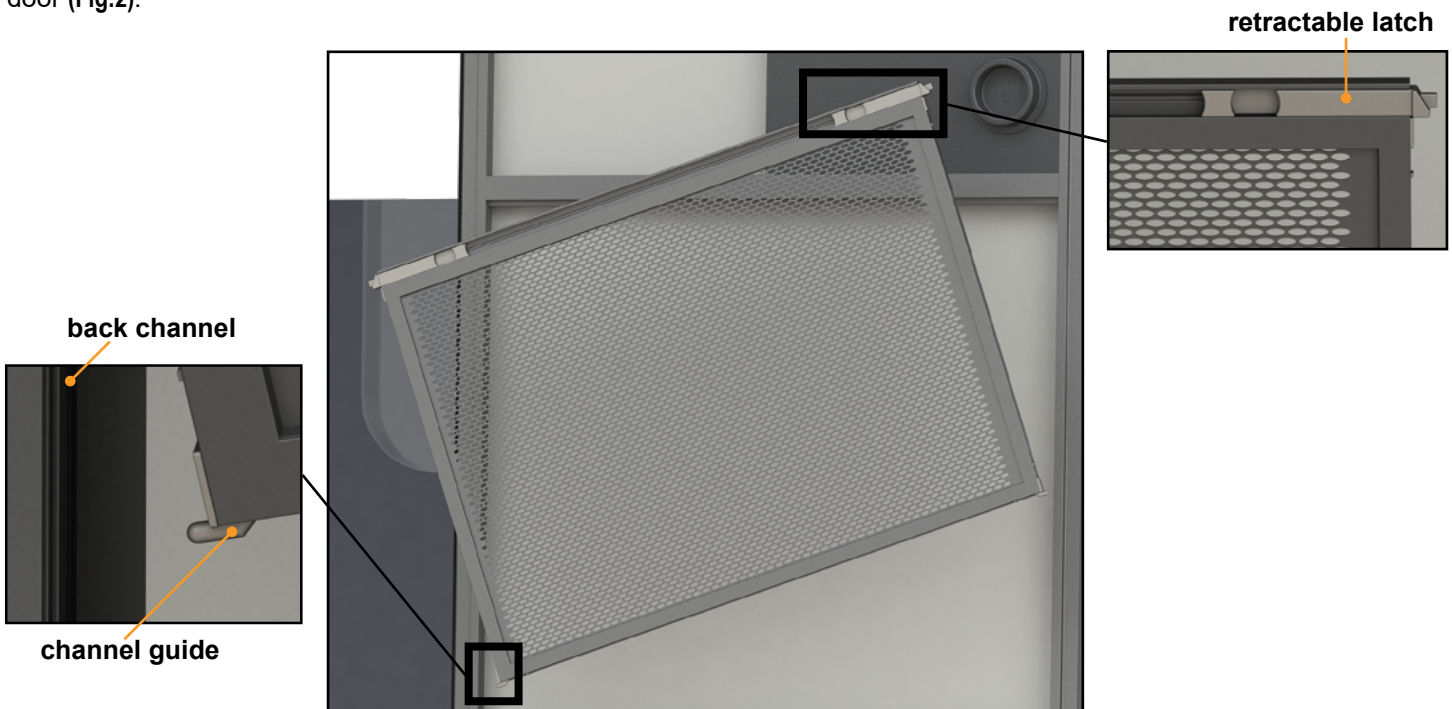

Fig.2
4. Tilt the Screen Defender and direct one side of the Screen Defender toward the back channel of the screen door (Fig.2).